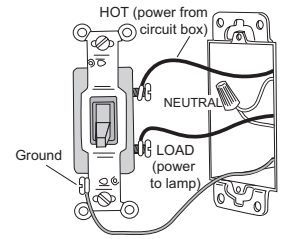

Figure 2: Typical Single Pole Switch Wiring
4. In a Single Pole Circuit (see Fig. 2), two single wires connect to two screws on the existing switch. A ground wire may also be present and connected to a ground terminal on the old switch. A neutral wire should also be present in the wall box.